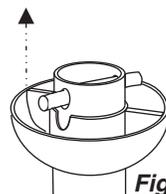

Fig. 5
5. Raise the ball so that the pin is in the slot and tighten the set screw. See Fig. 5